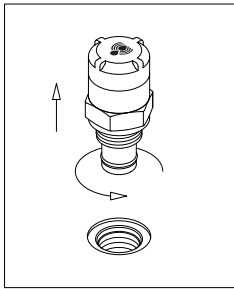

fig. 6
- (Fig. 6) Unscrew the indicator body
- For the mounting/dismounting of the indicator, please refer to the paragraph "Clogging indicator replacement" above (Fig. 6÷7)